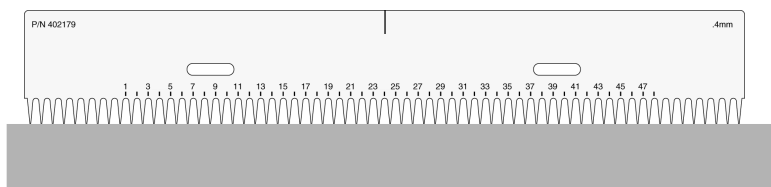

Figure 3-13. Sharks-tooth comb just touching the gel
1. Insert the sharks-tooth comb (see Figure 3-13).